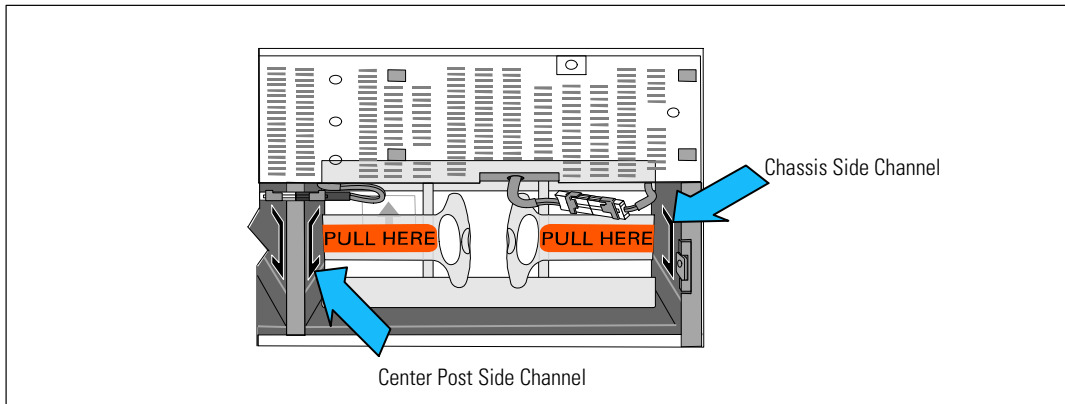

Figure 44. Inserting the bracket into the Channels
8 Replace the left (L) and right (R) battery retaining brackets (see Figure 44):